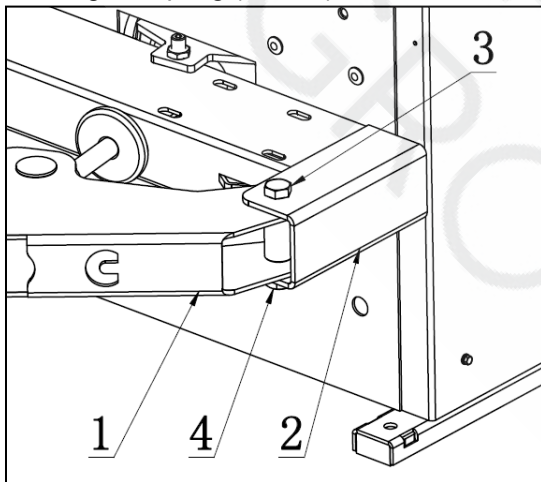

FIG8
- As shown in FIG8, align the installation hole of bead breaking arm (FIG8-1) to the installation hole of bead breaking arm bracket (FIG8-2). Plug in the pin shaft screw (FIG8-3) and then tighten the lock nut (FIG8-4).